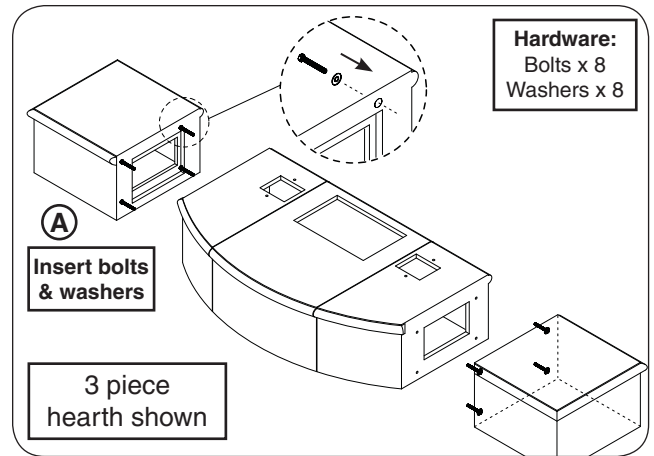

Fig. 16-1 Assemble hearth - arrange (if required)
2. Arrange the hearth pieces in their proper position. Then insert the bolts and washers into the outer pieces of the hearth as shown in Fig. 16-1.